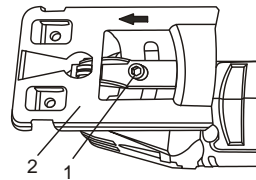

Fig. 3
1. Loosen the base pivot screw (1) until the base (2) can be slid forward (Fig. 3).
Bevel cutting angles may be adjusted from 0° to 45° either left or right. To adjust the bevel angle, refer to Fig. 3 & 4.